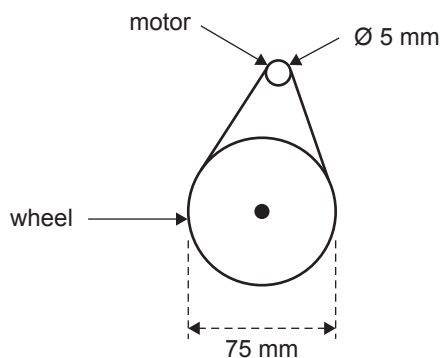

Figure 11
A close-up of the rubber band belt drive system is shown in a modified set-up in Figure 11. The speed of the wheel is 40 revolutions per minute (rpm).
b. Use the information given in Figure 11 to answer the following questions.